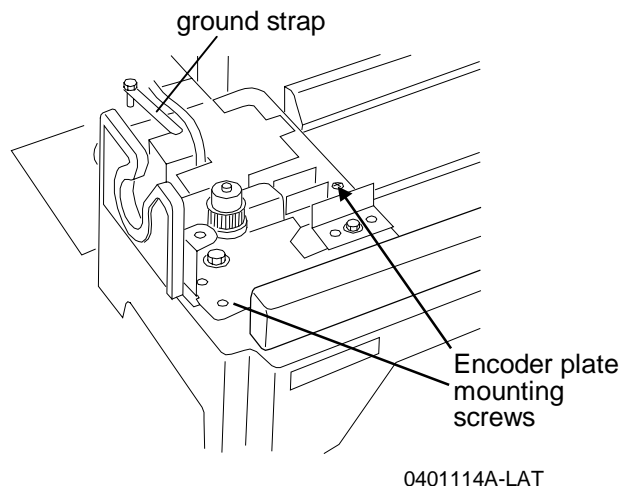

Figure 4.
11. Remove the screw and ground strap (Figure 4).
12. Remove the two Encoder plate mounting screws; remove the Encoder plate and Encoder (Figure 4).